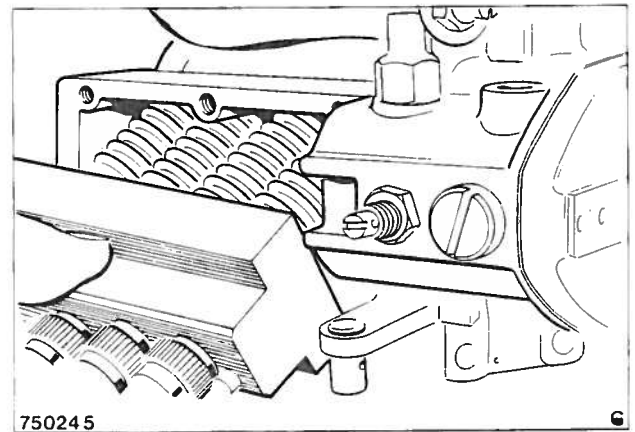

Fig. 9 Removing the pump body
3. Remove evenly the screws securing the pump body to the housing and lay the pump at an angle on the bench. Remove the pump body in an arc as shown in Fig. 9, so that the plunger arms are disengaged from the control forks.